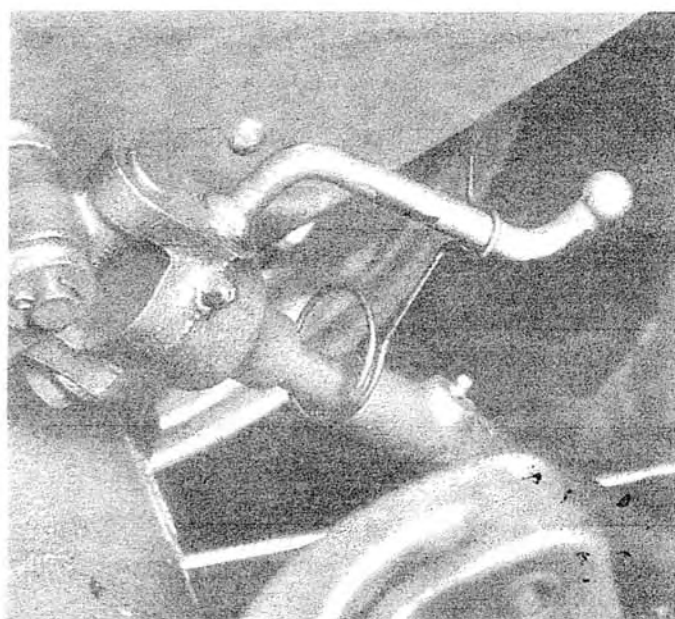

Fig. 18 - Locking Clip on Crank Lever
3. Attach the locking clip to the hand crank lever (Fig. 18). This will preclude any chance of the lever turning during operation, and altering the mower setting.